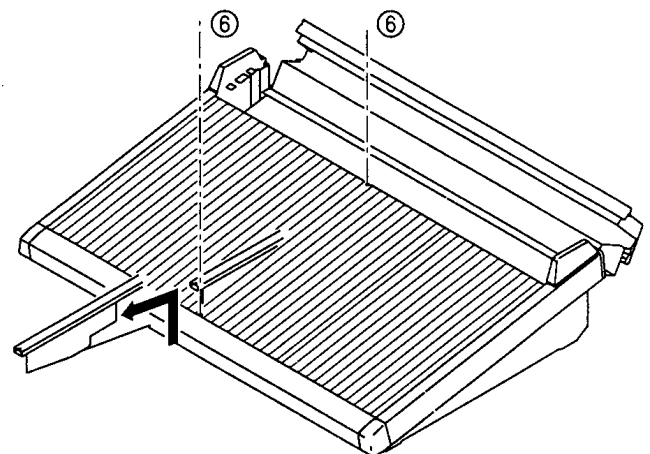

Fig.4
6. Loosen the retaining screws on the top and bottom of the module. These screws ⑥ should remain in the module. (Fig.4)
7. Lift up the bottom of the module, then carefully pull the module out of the console. (Fig.4)